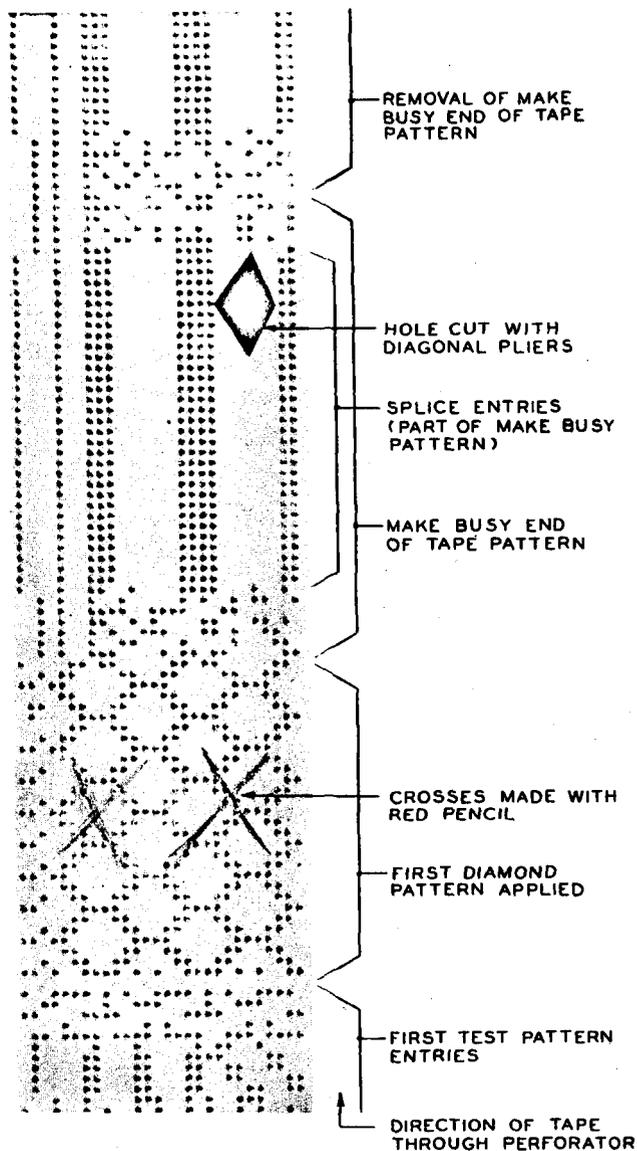

FIG. 1- SECTION OF PERFORATED TAPE AS SEEN FROM THE SMOOTH SIDE (PERFORATIONS INTO PAPER)
(4) In the splice entry area of the make busy pattern and about 3 inches below the lowest part of the diamond pattern that has been marked (in the direction farthest from the perforator drum) fold back the tape on itself so that the smooth side is exposed. Then, using the diagonal pliers, make two cuts in the folded tape at angles to form a V so that a square or diamond shaped hole will be left in the tape. This hole, as shown in Fig. 1, shall be located on the right hand side of the tape (E and F perforator positions) as viewed from the front of the perforator.